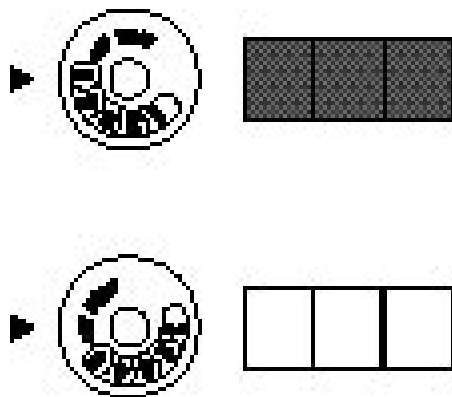

Fig.12 Burner Patterns
8. Turn thermostat control knob counterclockwise  to the desired heating level. The main burner should light. Set control knob to any heat level between HI and LOW (see fig. 12).